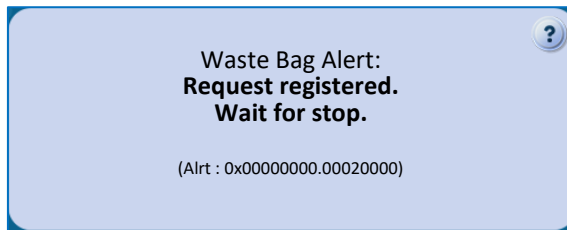

Figure 133 : Waste Bag Alert (1st situation)
- A first message indicates that the request has been taken into account and that the user must wait for the ATS to invite him to change the bag (see Figure 133).